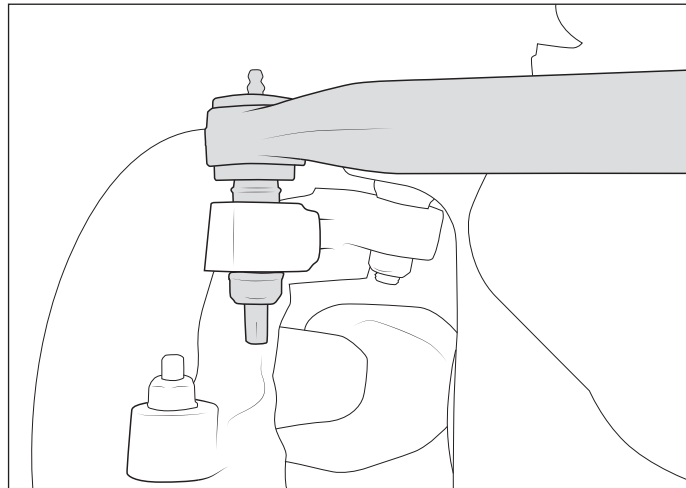

Figure 34
21. Install outer draglink stud into tapered insert on knuckle, install provided nut from the bottom, and torque nut to 100–110ft-lb (fig. 34).